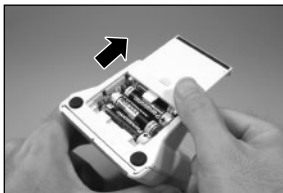

Fig. 3
(1) Setting of Batteries
- ① Remove the batteries after sliding the battery cover on the back of the unit in the direction of the arrow. (Fig. 3)